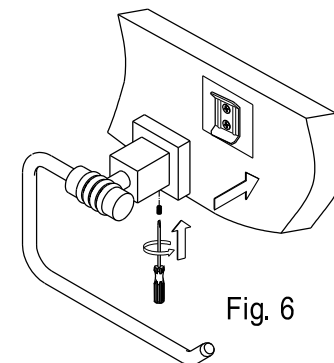

Fig. 6
- Step 6. Place the unit, with the small hole in the base underneath, over the mounting plate by tightening the slotted set screws with a flat head screwdriver until the base is tightly fixed (fig 6).